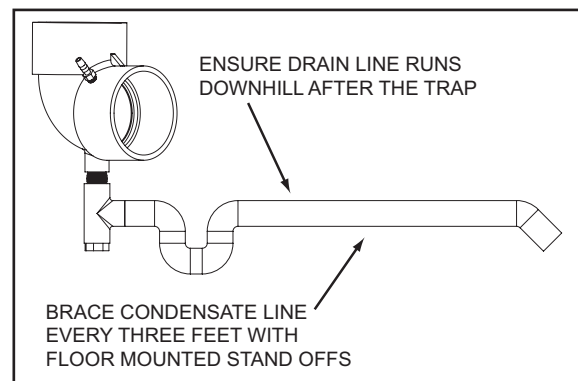

Figure 51
6. Complete the construction of the PVC drain line between the water heater and a suitable drain as shown in Figure 51. Use PVC primer and cement on all joints.